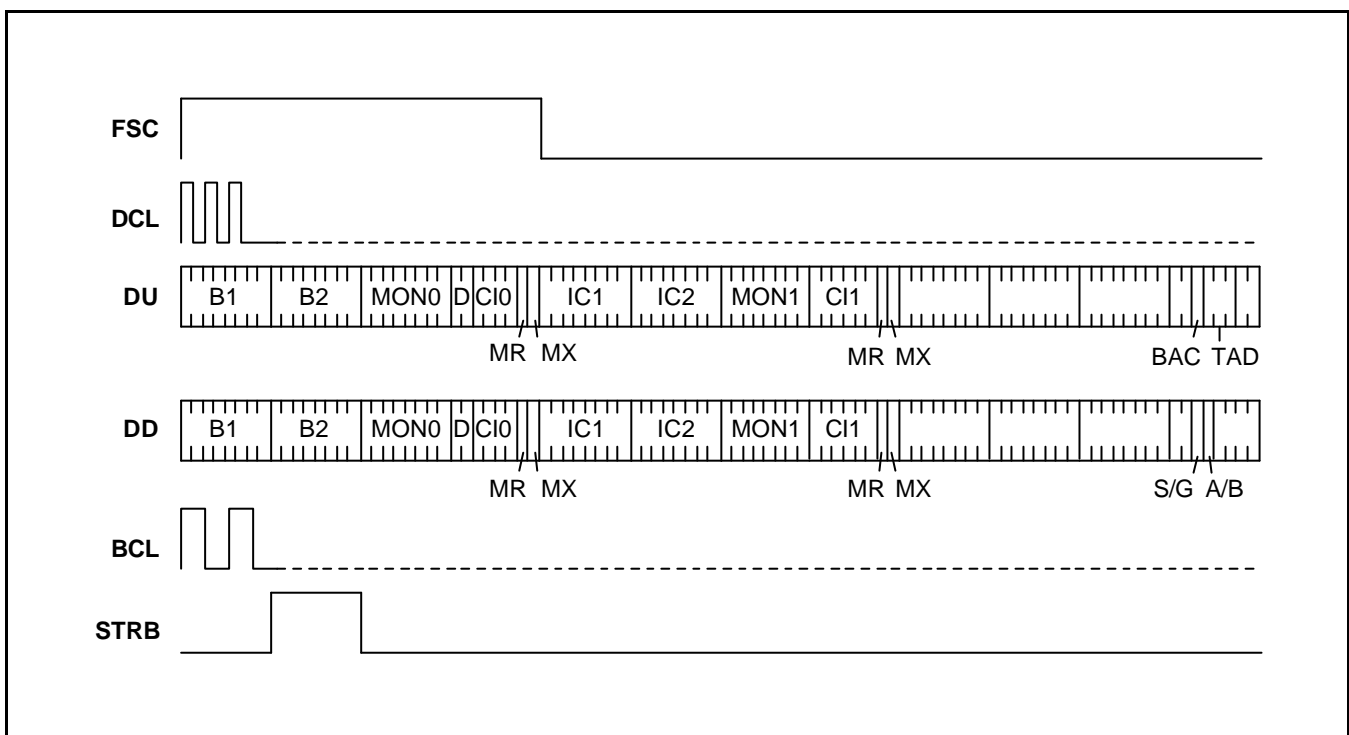

Figure 9-1. IOM2 Channel Structure in Terminal
The IOM2 bus provides a symmetrical full-duplex communication link, containing user data, control/programming, and status channels. Both the line card and terminal portions of the IOM2 standard utilize the same basic frame and clocking structure, but differ in the number and usage of the individual channels. The various channels are time-multiplexed over a four-wire serial interface. Data is clocked by a Data Rate Clock(DCL) that operates at twice the data rate. Frames are delimited by an 8-kHz Frame Synchronization Clock(FSC). Data is carried over Data Upstream(DU) and Data Downstream(DD) signals. Three additional signals are specified in the terminal mode to facilitate connecting components that do not directly support IOM2. These are a 1x-Bit rate Clock (BCL), and two Serial Data Strobes that identify the location of the B channels (SDS1 and SDS2). The S3C2500 includes two optional signals, BCL and SDS1. SDS1 is called STRB in S3C2500. In S3C2500, the terminal mode operation is supported but line-card mode is not supported. Figure9-1 shows the IOM2 channel structure in terminal mode.